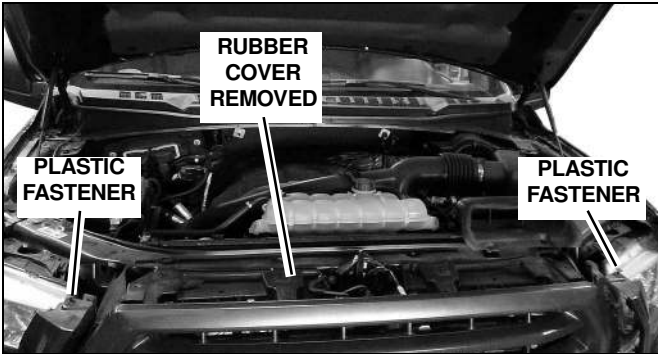

Figure 6
1. Open the Hood. Remove all the plastic fasteners holding the rubber cover spanning between the radiator and grill. Remove the rubber cover. (See Figure 6)
2. Remove the plastic fasteners next to the grill, holding the headlight trim in place. (See Figure 6)